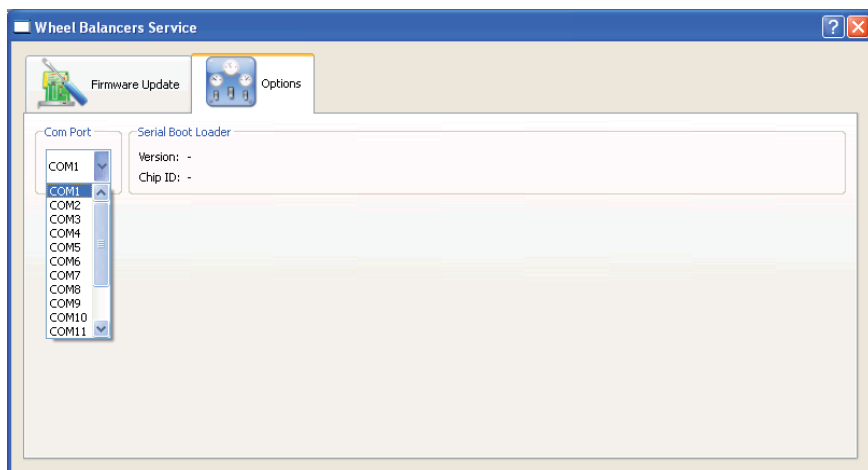

Fig.5C
- Select the Options tab and the COM serial port where the programming cable is connected to the PC, see figure 5C.